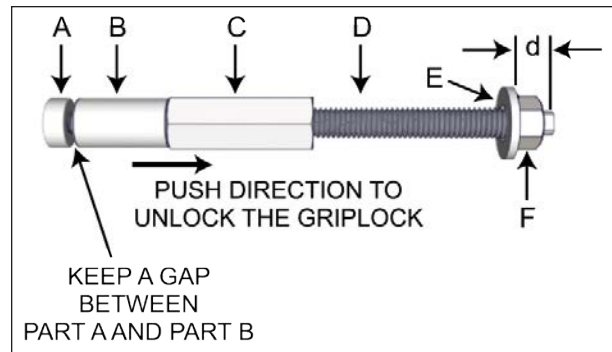

FIGURE 48: GRIPLOCK DEVICE
1. Install the Griplock completely into the hexagonal coupling nut, see Figure 48.
4. Ensure that the washer and the wing nut are mounted at the minimum distance of  $d=1/2"$ , see Figure 48.
5. Keep a gap between part A and part B as shown in Figure 48.
6. Push on the Griplock nut according to the specified direction to unlock the mechanism, see Figure 48.
*If the Griplock assembly does not fit easily, it must be because the Griplock nut ("A" in Figure 48) has not been loosened enough.*